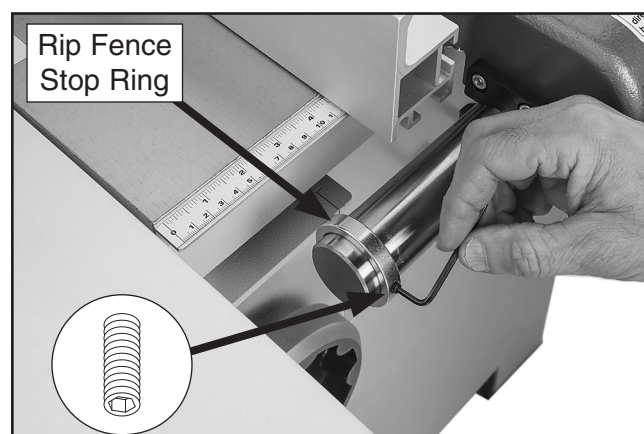

Figure 39. Rip fence stop ring attached to rail.
33. Slide rip fence stop ring onto left end of rail and tighten pre-installed set screw to secure (see **Figure 39**). When installed correctly, stop ring will prevent rip fence from contacting blade.